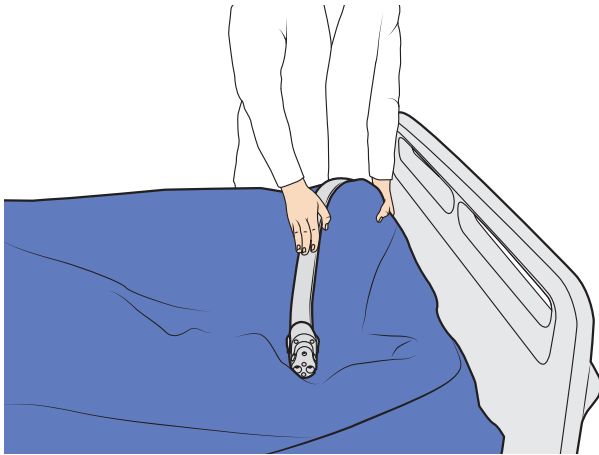

Figure 58
3. Place the tube-set over the Auralis mattress parallel to the foot end. See Figure 58